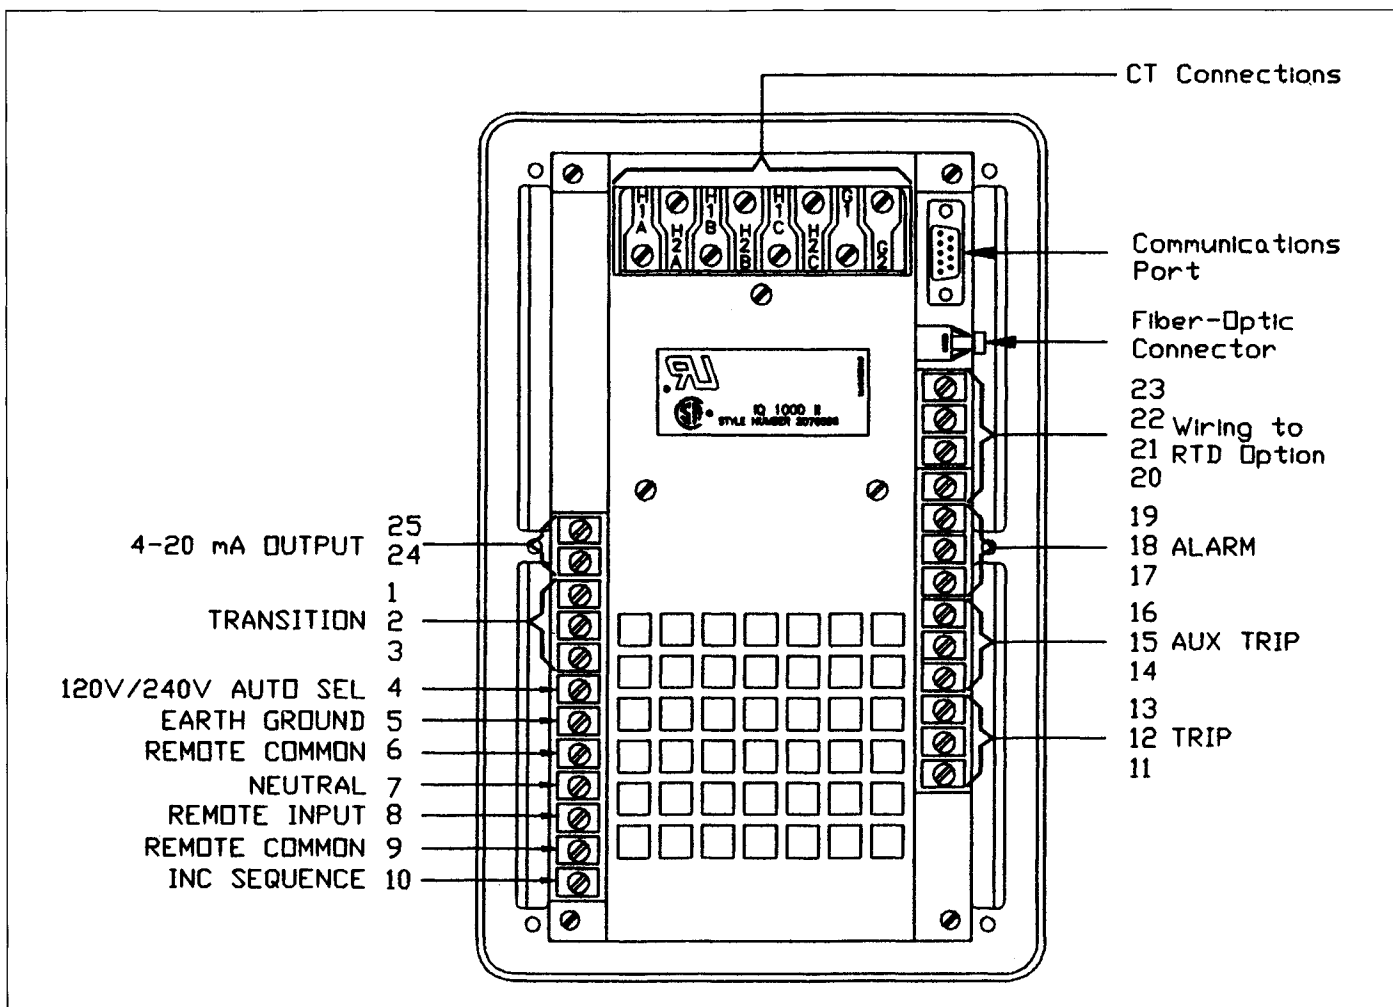

Fig. 6.1 IQ-1000 II Wiring Terminals
6.2 INITIAL AC POWER CHECKS — The following procedures describe the initial items to be performed when power is first applied to the IQ-1000 II. Refer to Figure 6.1 as necessary.